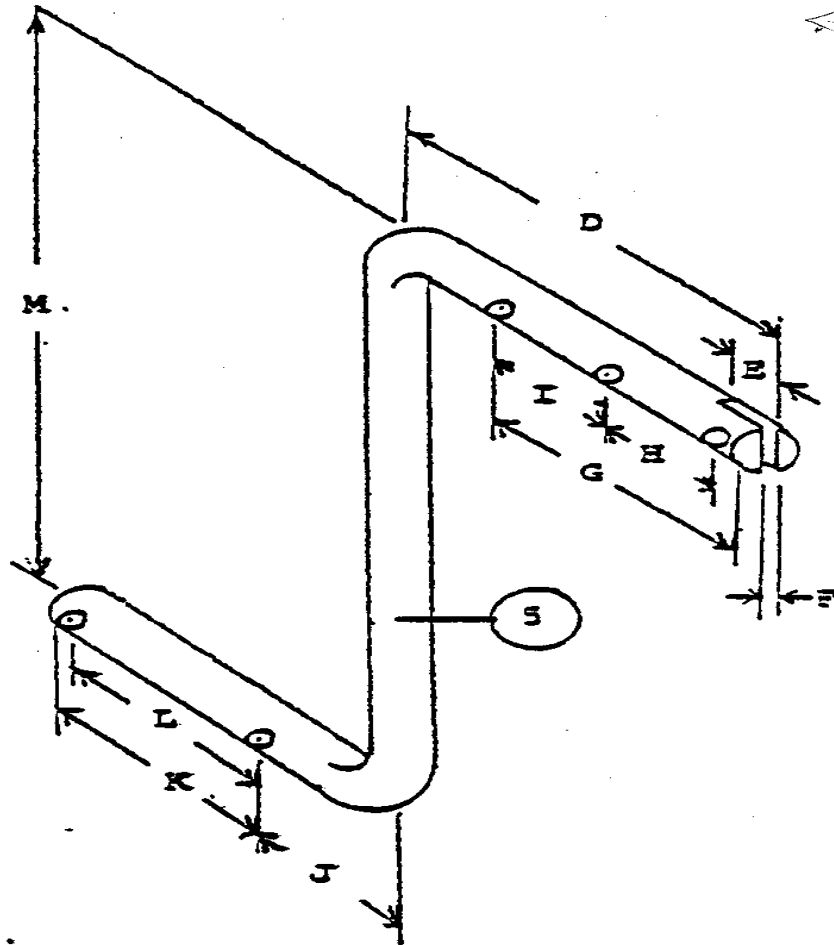

FIGURE 4
4. Bend crankshaft (5), cut slot in end indicated, drill 0.6cm (1/4") diameter hole through slotted end and drill four 0.3cm (1/8") diameter holes. <see figure 4>